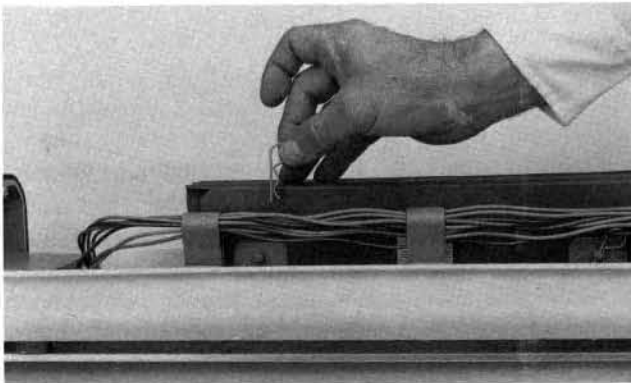

Figure 42
20.05 Proceed until all splicing trays are completed. Align the holes in the splice trays with the holes in the splice tray retainers. Insert the splice tray retainer pins and retainer clips. Figure 42.